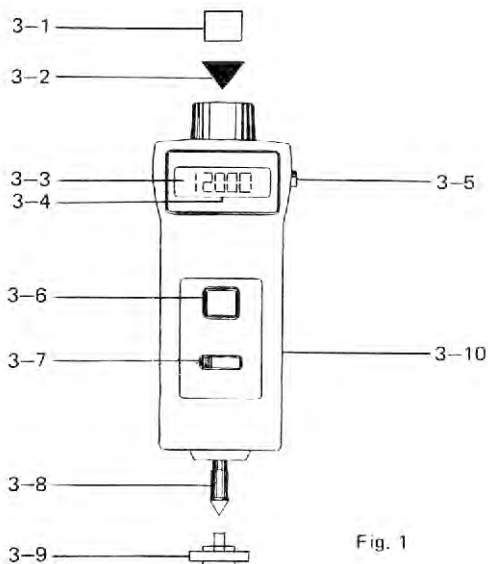

Fig. 1
- (1) When it is necessary to replace the battery (battery voltage less than approx. 4.5V), “LO” will appear on the display.
- (2) To loose the screw of the battery cover 3-10 fig. 1 away from the instrument and remove the battery.
(3) Install the batteries correctly into the case. Permanent damage to the circuit may result from incorrect installation.